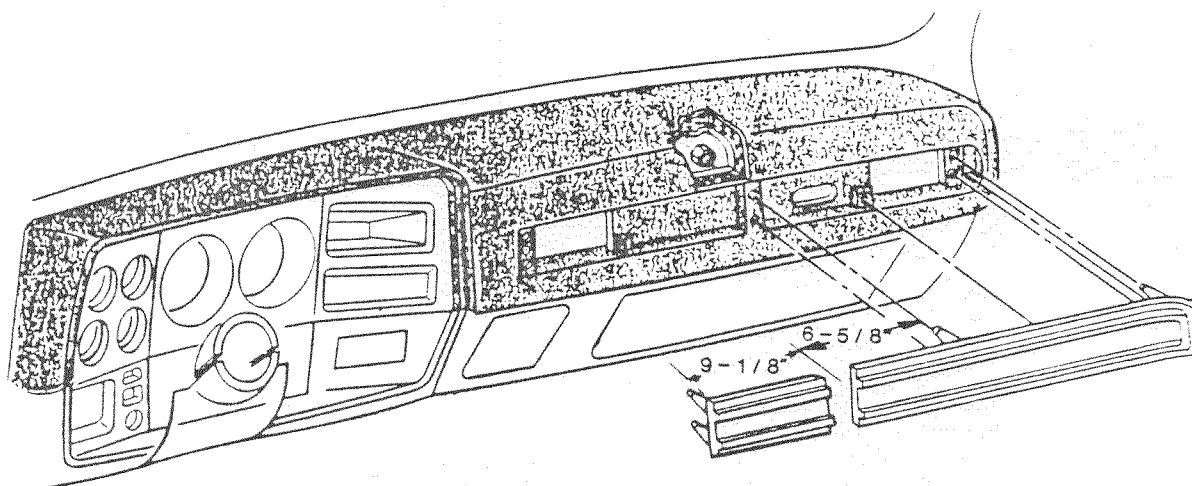

Figure 12.
74. Remove molding from padded dash and cut off end (Figure 12.).